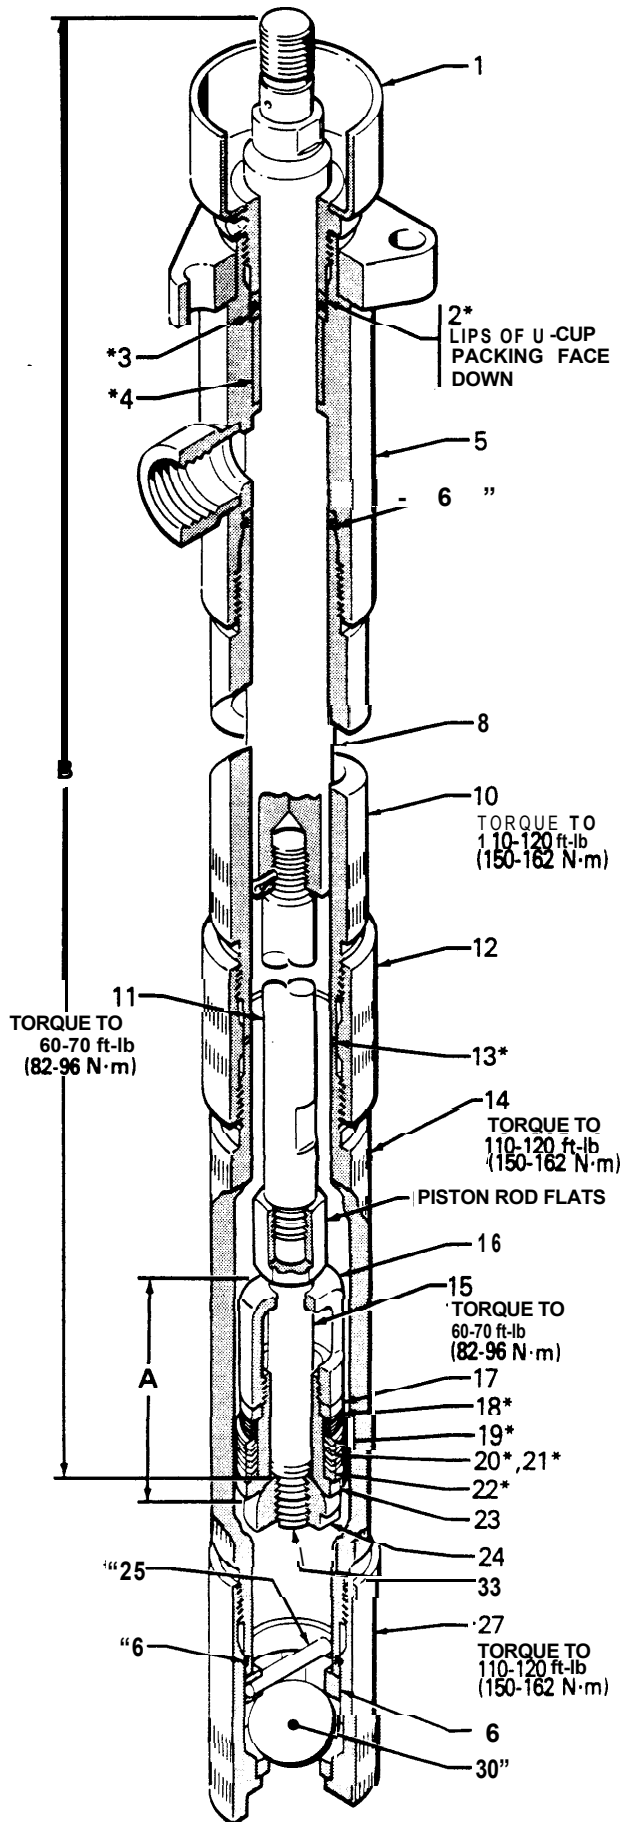

Fig 1
1. Unscrew the foot valve (27). Remove the ball stop (26), pin (25) and ball (30). See Fig 1.
2. Unscrew the lower cylinder (14) from the cylinder coupling (12). Remove the o-ring (6) and gasket (13). Using a soft mallet, gently tap on the top of the rod (8) and pull the rod assembly (B) out of the pump housing.
4. Pull the piston assembly (A) off of the rod (15). Refer to Fig 1.
6. Remove the wet-cup (1), u-cup packing (2), washer (3) and bearing (4) from the pump housing (5) throat. See Fig 1.
7. Unscrew the upper cylinder (10) from the pump housing (5). Remove the o-ring (6).
8. Clean all parts thoroughly in a compatible solvent and dry. Inspect for wear or damage such as nicks and scratches. If the outer surface of the rod assembly (B) or the inner surface of the cylinders are scored or worn, disassemble the rod and replace parts as needed.
9. If you disassembled the rods, place the flats of the displacement rod (8) in a vise. Apply thread locking compound to the threads of the connecting rod (11). Screw the rod (11) into the displacement rod (8), torquing to 60-70 ft-lb (82-96 N·m). Screw the piston rod (15) onto the connecting rod, torquing to 60-70 ft-lb (82-96 N·m). Refer to Fig 1.
13. Lubricate the new bearing (4*), washer (3*) and u-cup packing (2*), and install in the pump housing (5). *The lips of the u-cup packing must face down in the throat.* Install the wet-cup (1) and screw in tightly. See Fig 1.
14. Lubricate the new o-ring (6*) and install on the upper cylinder (10). Screw the cylinder snugly in to the pump housing (5). Torque to 110-120 h-lb (150-162 N·m). See Fig 1.
18. Apply grease to the coupling gasket (13) and install the gasket in the coupling (12). The grease helps hold it in place.
19. Lubricate the end of the displacement rod (8) and slide the rod assembly into the bottom of the upper cylinder (10) and guide it carefully through the throat bearing (4). See Fig 1.
20. Screw the coupling down far enough to engage the threads of the lower cylinder (14). Screw the coupling up again and continue screwing in the cylinder. Torque to 110-120 ft-lb (150-162 N·m). *When properly adjusted, only one full thread of each cylinder (10 and 14) can be exposed on each side of the coupling; otherwise, the gasket (13) will not seat correctly.*
21. Install the pin (25) in the ball stop (26) and install the ball (30) and stop (26) in the foot valve (27). Lubricate the bottom of the cylinder (14), then install the foot valve. See Fig 1. Place the pump housing in a vise so that outlet is against one vise jaw. Tighten the vise. Now tighten the foot valve firmly to 110 to 120 ft-lb (150-162 N·m).